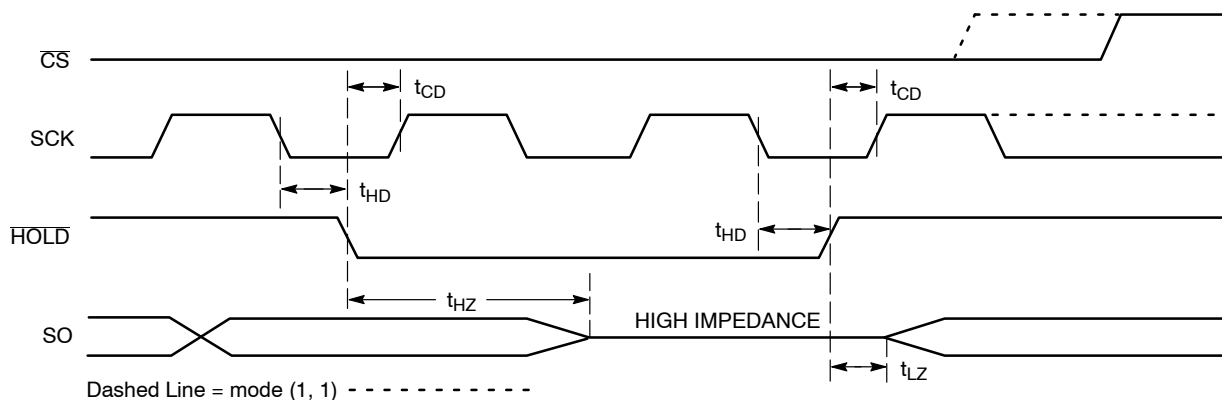

Figure 11. $\overline{\text{HOLD}}$ Timing
The $\overline{\text{HOLD}}$ input can be used to pause communication between host and CAT25010/20/40. To pause, $\overline{\text{HOLD}}$ must be taken low while SCK is low (Figure 11). During the hold condition the device must remain selected ($\overline{\text{CS}}$ low). During the pause, the data output pin (SO) is tri-stated (high impedance) and SI transitions are ignored. To resume communication, $\overline{\text{HOLD}}$ must be taken high while SCK is low.